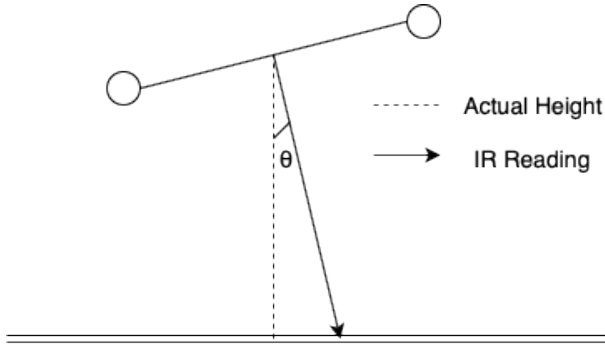

Figure 1.2. An example of inaccurate sensor reading
- The sensor readings may not really represent the behavior we wish to control. For example, it might seem like a downward facing TOF would be a good representation of a drone’s altitude, but suppose the drone rolls a non-trivial amount *or flies over a reflective surface* (See Figure 1.2).